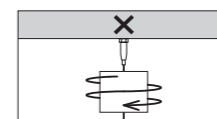

Fig.10
- Do not use our products under the condition that twisting force is always applied to the wire, such as rotating the hanging items. The wire may be pull out the grippers.(Fig.10)